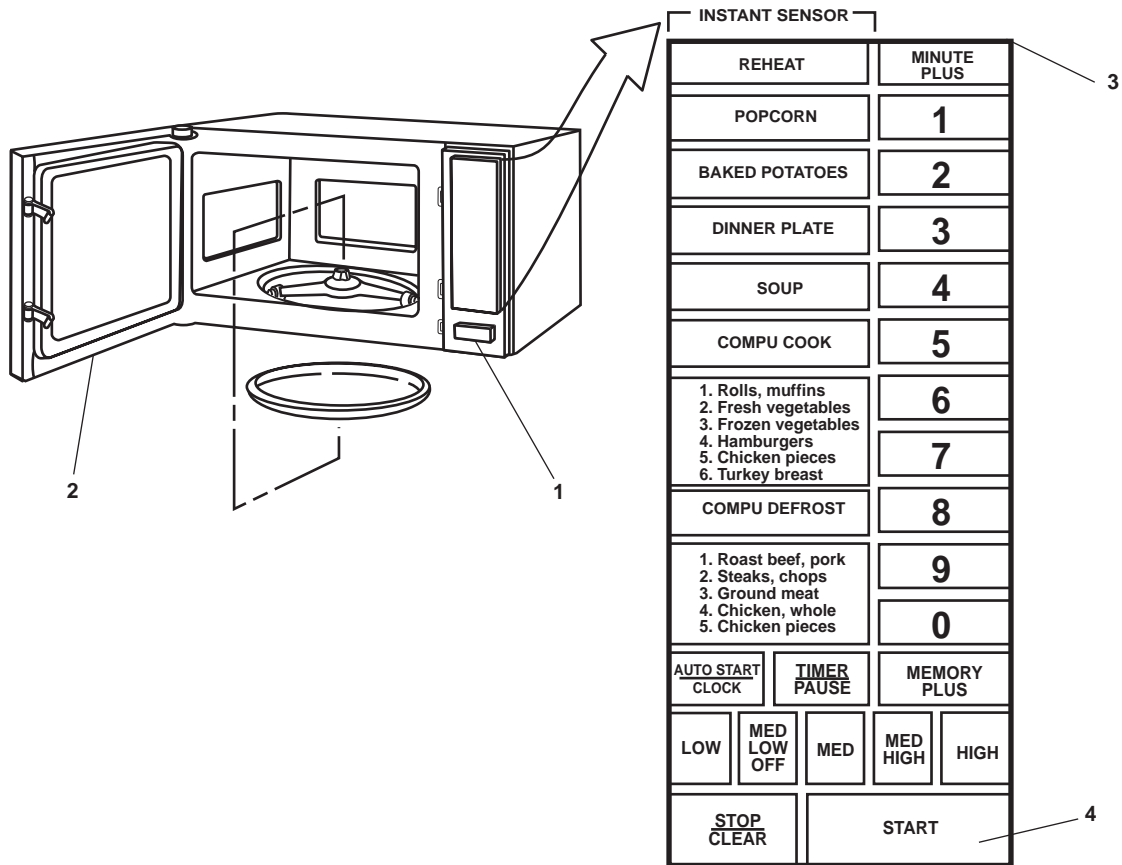

Figure 12. Microwave Oven
- a. Press the DOOR OPEN button (figure 12, item 1) until the door (figure 12, item 2) opens.
- b. Place the food in the microwave oven and close the door (figure 12, item 2).
- c. Select the desired setting on the control panel (figure 12, item 3).
- d. Press the START button (figure 12, item 4).
- e. When cooking is complete, press the DOOR OPEN button (figure 12, item 1) until the door (figure 12, item 2) opens.
- f. Remove the food and close the door (figure 12, item 2).